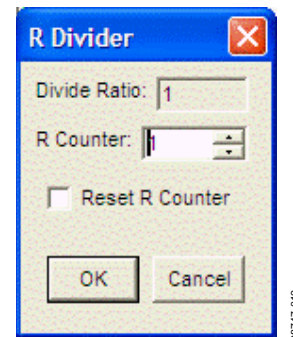

Figure 13. AD9522 Reference Divider Window
6. Program the R (reference) divider by clicking the **R DIVIDER** box at the top of the main window. Set the desired value (72, in this case) and click **OK** (see Figure 13).
The R divider window shown in Figure 13 is accessed by clicking the **R DIVIDER** box. It allows you to set the reference divider. If this box is colored gray, the PLL is off. To turn the PLL on, click the **PLL MODE** box at the top of the main window, and select **Norm Op**.